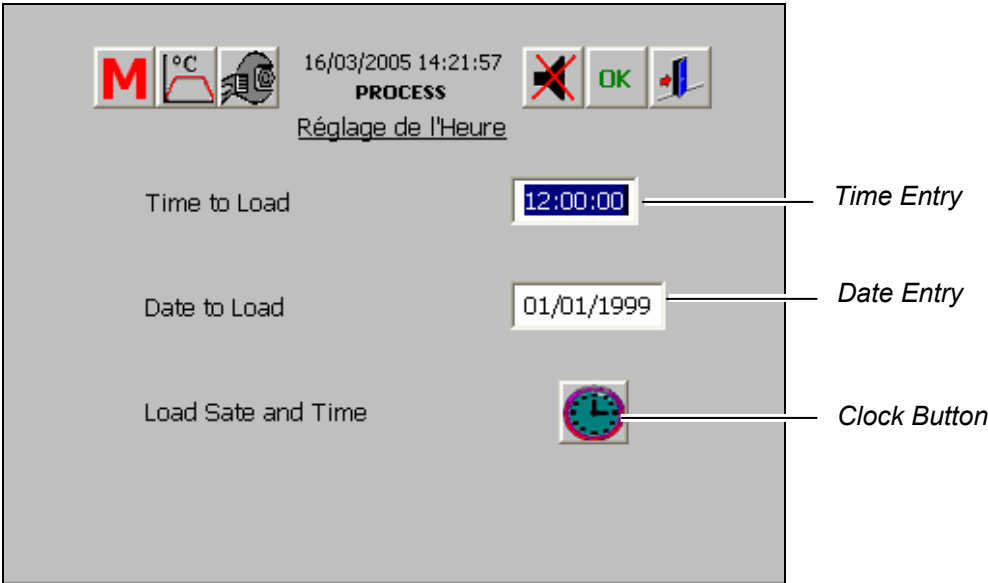

Figure 6-34 Enter Date and Time
3. The following screen appears to enter the correct date and time (Figure 6-34). Enter the correct **Time** and click **Enter**. Follow the same procedure to set the date. To download the new parameters to the PLC click on the **Clock** button.